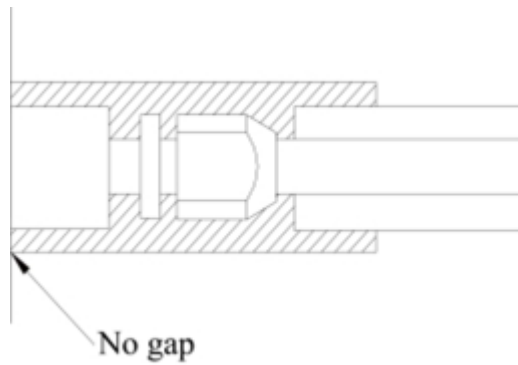

Figure 19: Insulation for the Refrigerant Pipe
2. The joints of the indoor unit should be wrapped with the insulating material and ensure there is no gap between the insulation and the indoor unit, as shown in Figure 19.